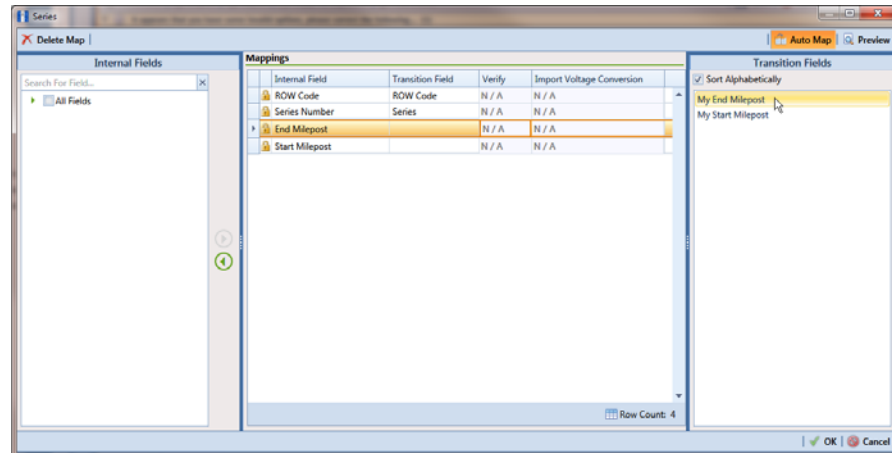

Figure 10-52. Field Mappings
- a** Click  **Edit** in the *Maps* group box to open a field mapping window (Figure 10-52, page 478).
NOTE: Fields in the *Mappings* panel with a lock icon  are required fields for mapping, such as *ROW Code*, *Series*, *End Milepost*, and *Start Milepost* shown in Figure 10-52 (page 478).